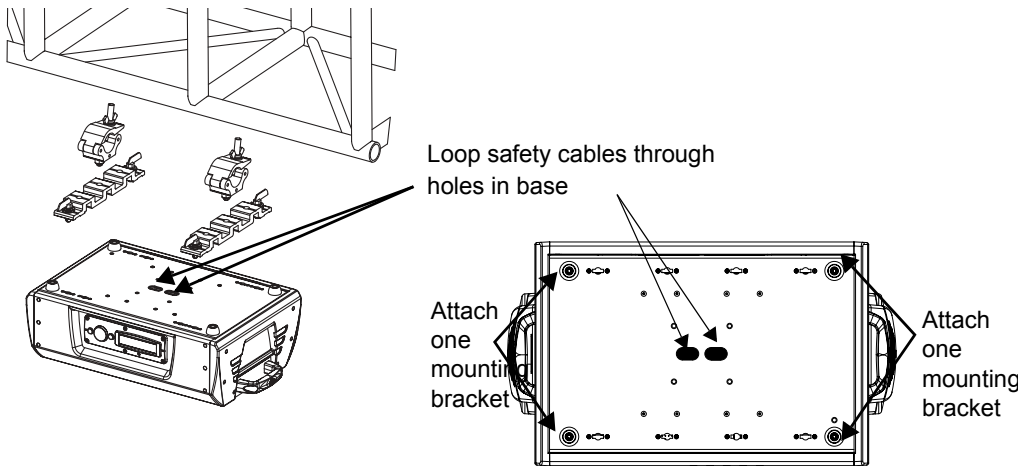

Figure 2-3 Attaching the Mounting brackets
Always mount the DL.1 fixture with the cheeseborough clamps that shipped with your fixture and a safety cable attached (using the mounting bracket) to the fixture's base, shown in Figure 2-3. Do not use C- Clamps to mount the DL.1 fixture. You can remove the mounting clamps for floor applications.
4. Attach two mounting brackets to the base of the fixture (as shown in Figure 2-3) using the provided quarter-turn screws.